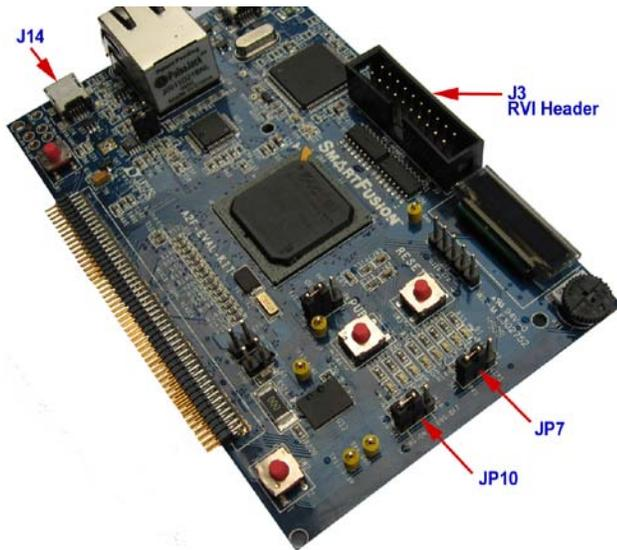

Figure 3: EVAL-KIT Jumper Settings for Keil ULINK operation.
**A2F-EVAL-KIT:** the Small Blue Board: See Figure 3.